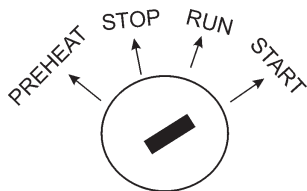

Figure 22. Ignition Switch (START)
- Turn the key to preheat until the engine warms up (for 3-5 minutes). Then turn the key to the right until the engine starts. Release the key to the 'run' mode (Figure 22).